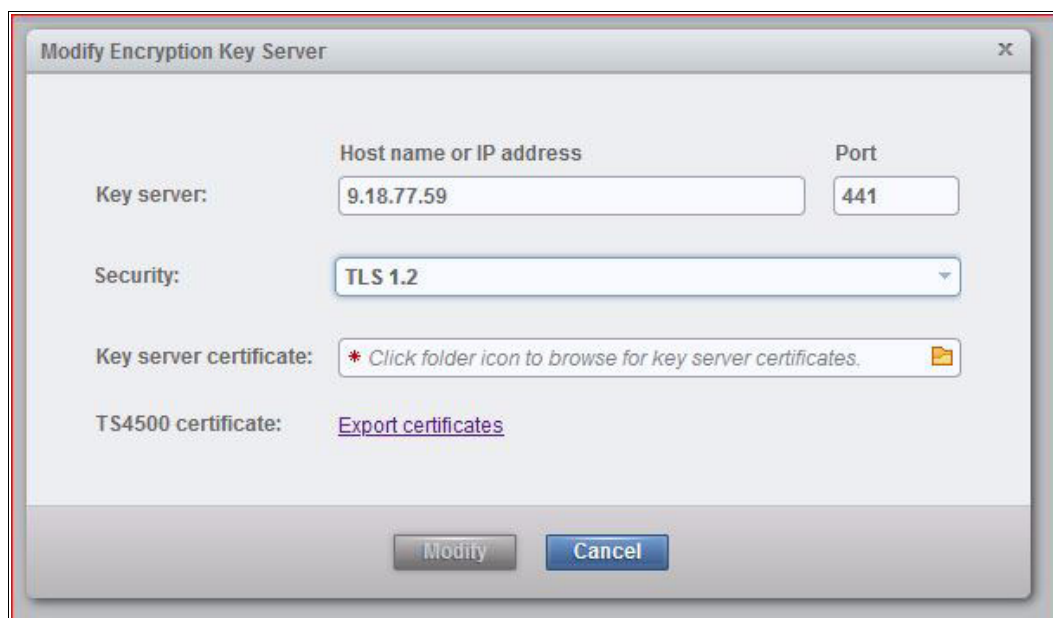

Figure 3-2 TLS1.2 option
4. Select the Security type: Transport Layer Security (TLS) 1.2 or Proprietary. If TLS1.2 is selected (see Figure 3-2), a Key server certificate must be added to the TS4500 by using the folder browser. The file can contain a chain of certificates. The file must also be in Base64 privacy enhanced mail (PEM) format. The maximum length is 255 characters.